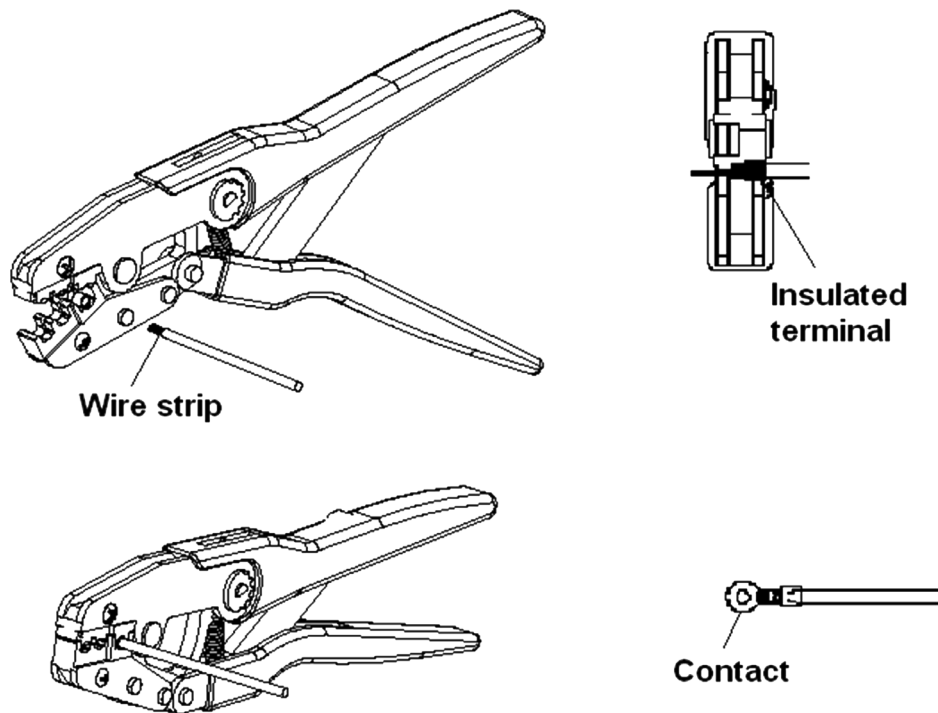

Figure 2
4. Position the contact between the die set so that the terminal/connector in the proper die. The center of insulated terminal/connector should be proper in cavity. Refer Figures 2.